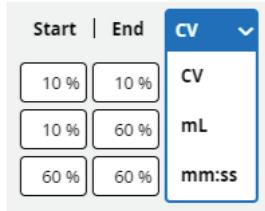

Figure 12. The gradient length unit can be selected in the gradient table (as shown above) and in the expanded gradient graph.
- Unit or CV/mL/mm:ss:** The gradient length unit. CV (column volumes), milliliters, or minutes and seconds; see Figure 12.